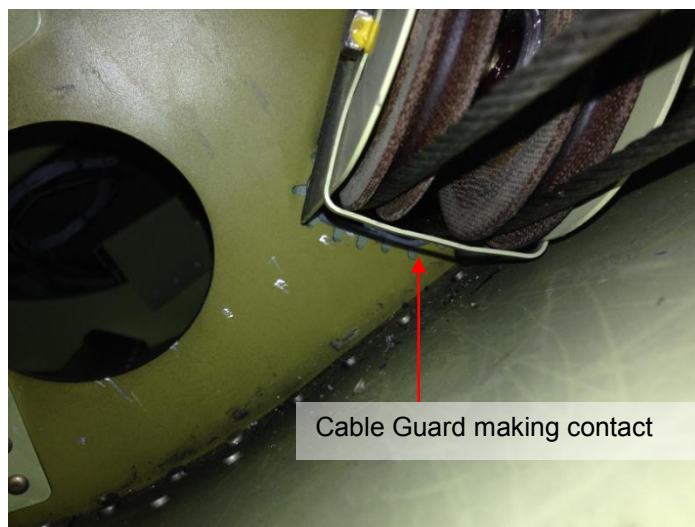

Figure 5-5: Cable Guard
3. Cable guard making contact with pulleys or fuselage skin as shown in **Figure 5-5**.